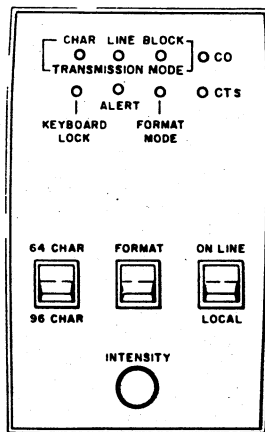

Figure 6-37. INTENSITY Control
To check the INTENSITY control (figure 6-37), perform the following:
2. Remove the indicator panel on which the control is mounted (figure 6-37) by inserting fingernails between the panel and bezel (procedure 10). Carefully pry out the panel gradually from one end and then the other to release the clips holding the panel to the bezel.